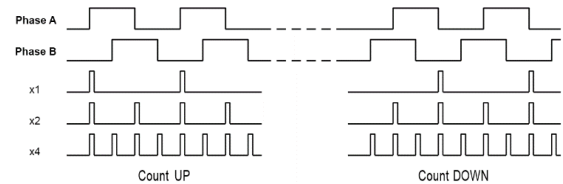

Figure 2-6
- For an A/B phase type you can select x1, x2 or x4 multiplication rate. Figure 2-6 shows how the encoder counts would be interpolated for a x1, x2, and x4 multiplication rate on a single encoder.